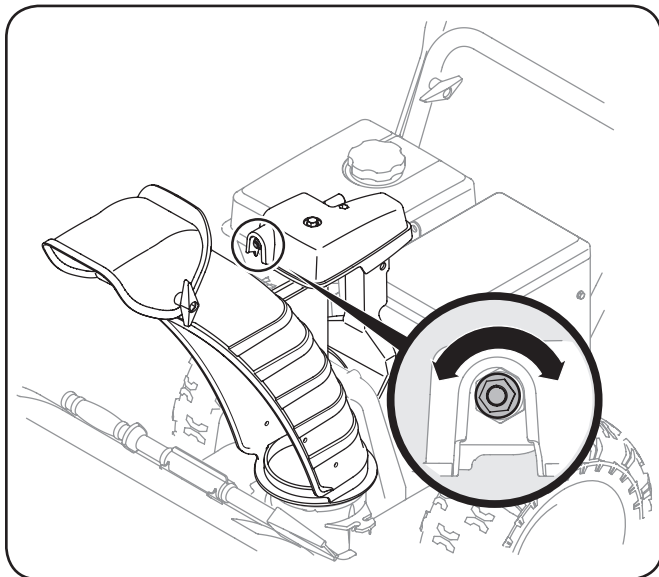

Fig. 6-6
- While preventing the chute control rod from turning tighten the nut on the chute gearbox assembly. See Fig. 6-6.